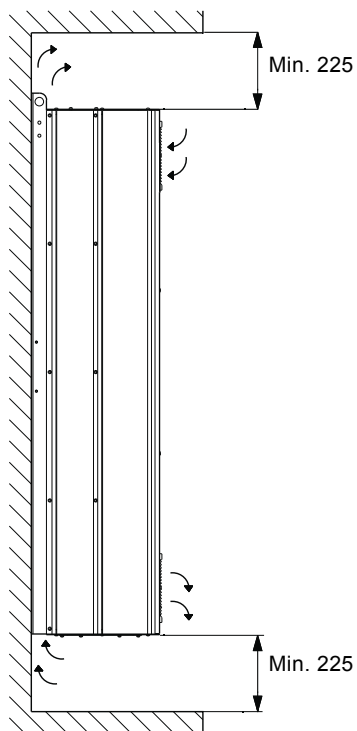

Fig. 3 Airflow direction and required space for cooling [mm]
- Sufficient free space above and below the CUE to allow airflow and cable connection. See fig. 3.